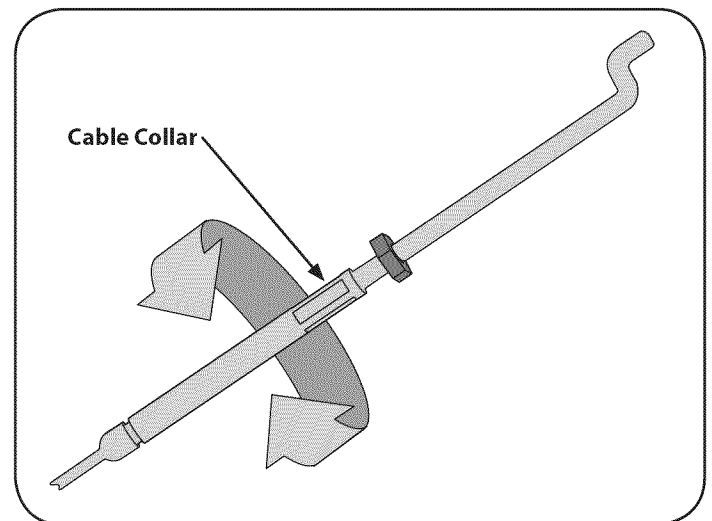

Figure 10
3. Turn the cable collar section one or two turns to increase or decrease tension on the cable. See Figure 10.